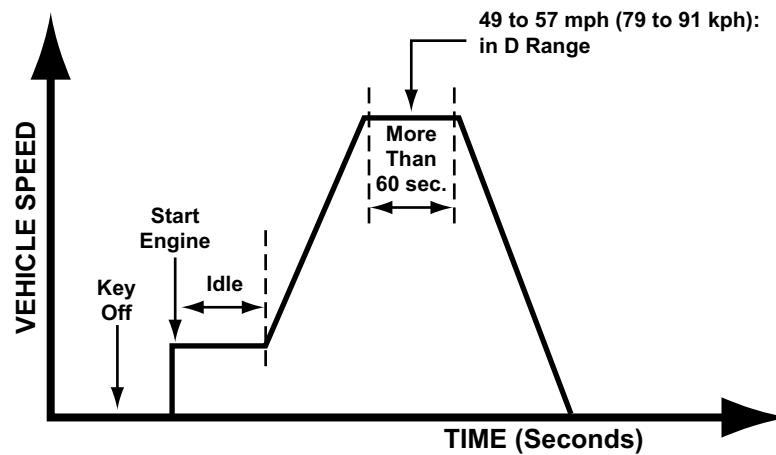

Figure MA000-35
3. Drive the vehicle as shown in Figure MA000-35.